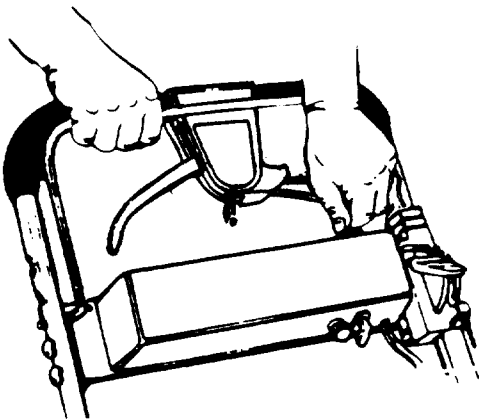

FIGURE 10.
3. Standing behind the unit, depress the blade control handle and hold it against the upper handle. Make certain drive clutch control handle is released. See figure 10.